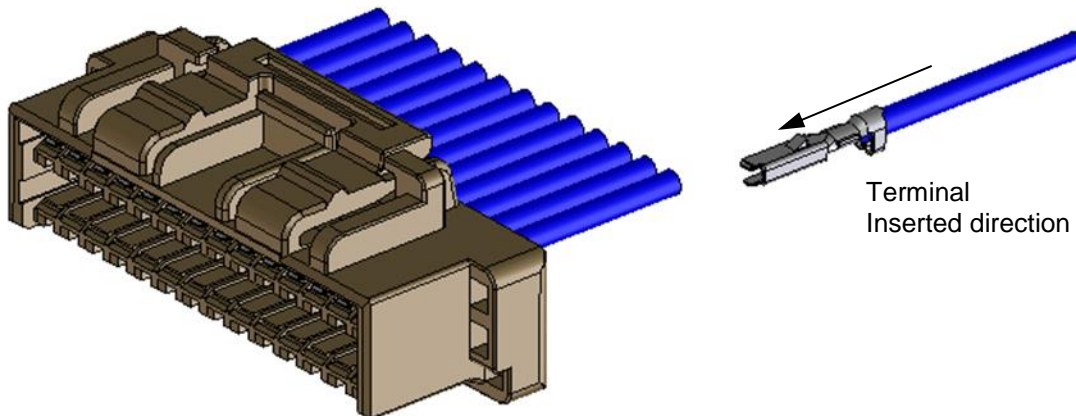

Fig.5-1
- ③ Picking with terminal lance part toward center of plug housing, please insert terminal slowly and straightly till the tip of terminal touch housing (with force of around 300~500g). (Fig.5-1)